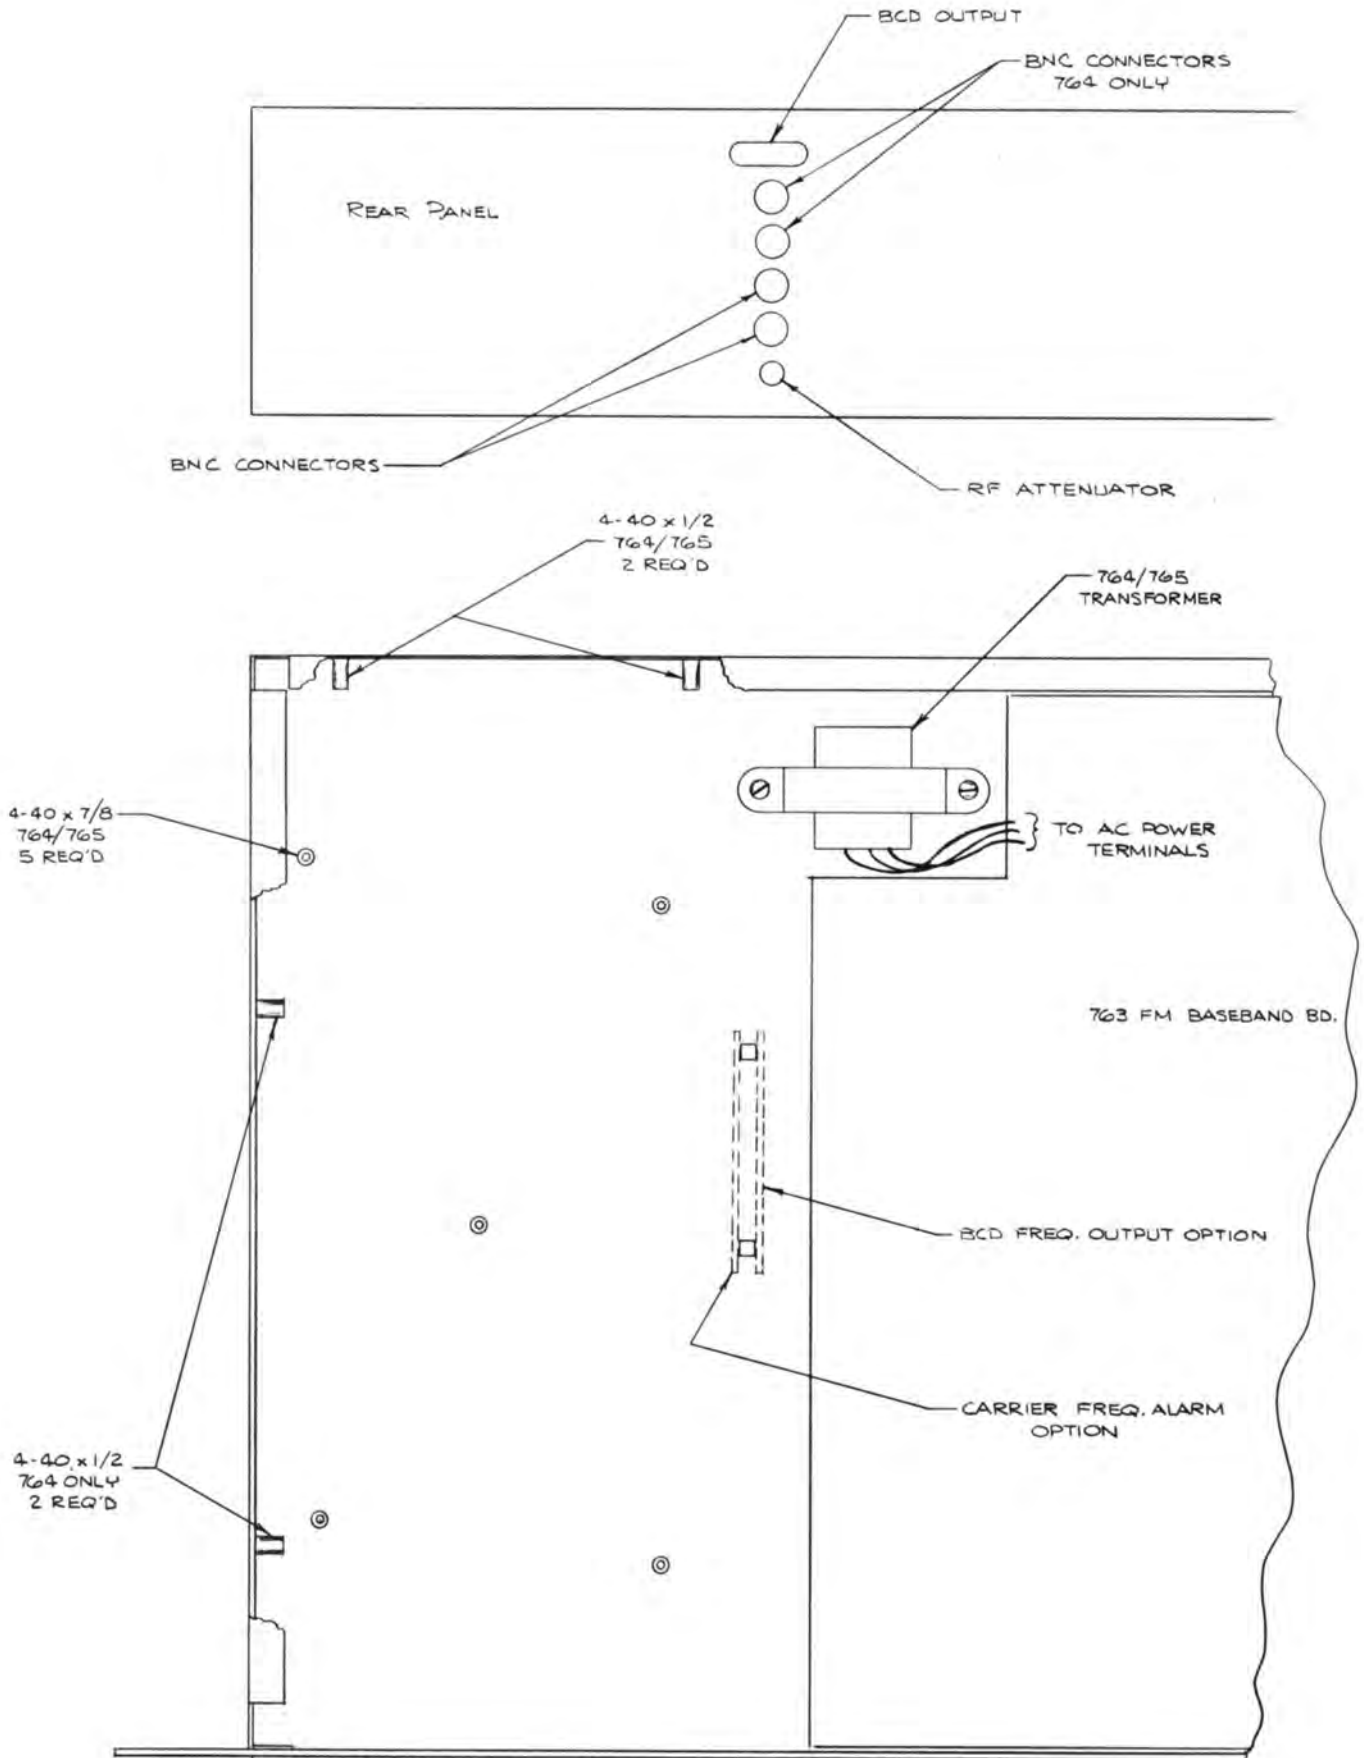

FIGURE 2-1
- c. Referring to Figure 2-1, install the transformer provided in the kit, using two 3/8" No. 6 screws and locking nuts. Wire the transformer primary to the 117 VAC terminals in the Model 763.
- d. Install the two BNC connectors and the RF attenuator on the rear panel as shown in Figure 2-1. Wire the resistors on the RF attenuator in accordance with the wiring diagram, Figure 6-2.
- e. Referring to Figure 2-1, install 7/8" standoffs on the bottom of the chassis and 7/8" standoffs on the rear panel, using 3/8" No. 4 screws.
- d. Install the four BNC connectors and the RF attenuator on the rear panel as shown in Figure 2-1. Wire the resistors on the RF attenuator in accordance with the wiring diagram, Figure 6-2.
- e. Referring to Figure 2-1, install 7/8" standoffs on the bottom of the chassis, 1/2" standoffs on the rear panel, and 1/2" standoffs on the side panel, using 3/8" No. 4 screws.
This option is available for the Model 764 only. If both this option and the Carrier Frequency Alarm option are to be added, secure both options to the support bracket as shown in Fig. 2-1.
- b. Secure support bracket to the BCD frequency output board as shown in Fig 2-1, using four 3/16" x 4-40 screws.
- d. Secure the BCD frequency output board to the chassis, as shown in Fig. 2-1 using two 3/8" x 6-32 screws.
This option is available for the Model 764 only. If both this option and the BCD Frequency Output options are to be added, secure both options to the support bracket as shown in Fig. 2-1.
- b. Secure support bracket to Carrier Frequency Alarm Option board as shown in Fig. 2-1, using four 3/16" x 4-40 screws.
- d. Secure the Carrier Frequency Alarm board to the chassis as shown in Fig. 2-1, using two 3/8" x 6-32 screws.